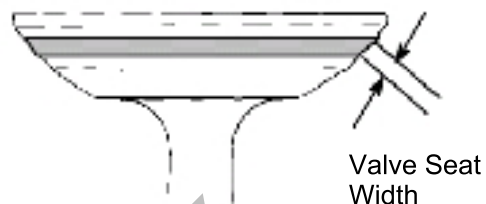

Fig. 1
2. Inspect valve face for burning, pitting or uneven contact. (Fig. 1)